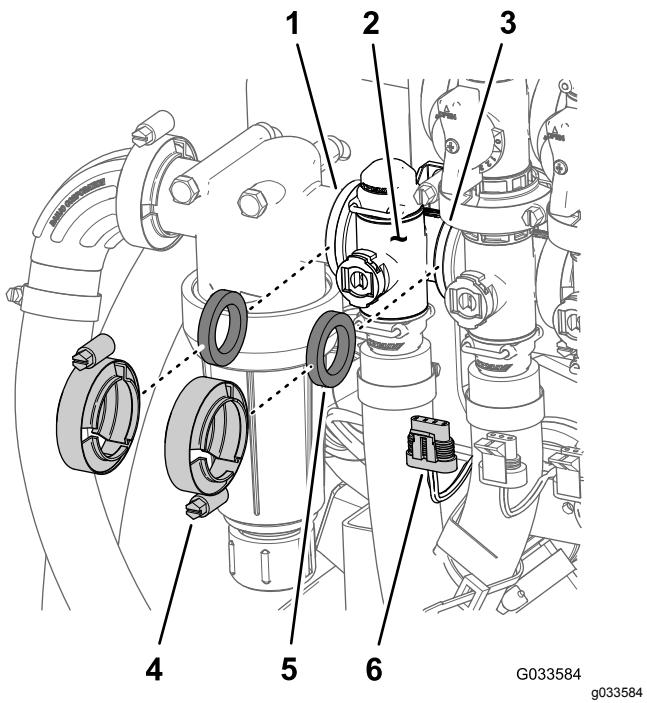

Figure 98
1. Remove 2 flange clamps and 2 gaskets that secure the manifold for the rate control valve (Figure 98) to the pressure filter and agitation valve.